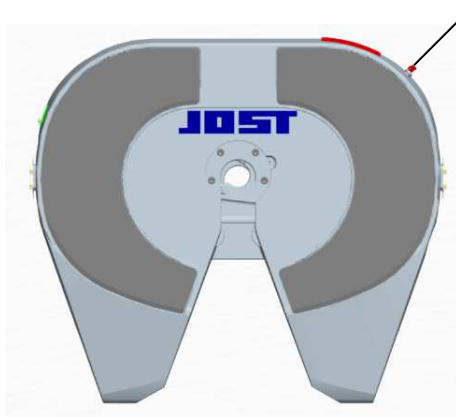

FIGURE 1
1. Lubricate the kingpin lock using a hand pump grease gun through the grease zerk provided on the skirt of the fifth wheel (see figure 1).